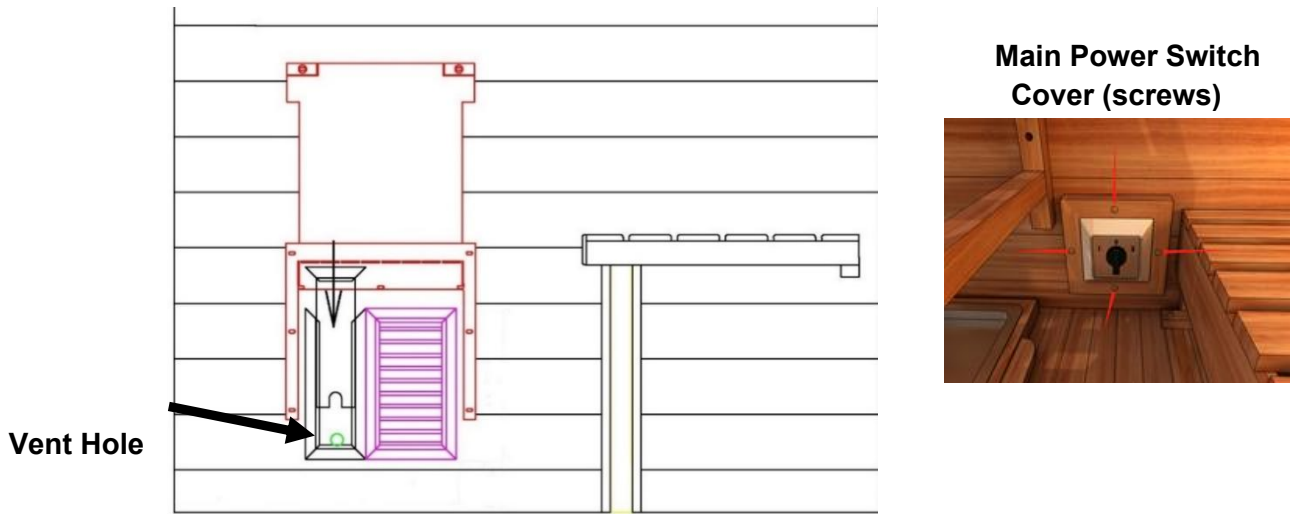

Figure 10
1. **Please Note: The heater must be installed by a certified electrician per the manufacturer's manual. The heater must be installed per the electrical code in your area with reference to the breaker and wire sizes & wire material. Be sure to follow the manufacturer's manual for proper and safe installation of the heater. A certified electrician will need to run the applicable wire from the electrical panel or junction box to the main power switch per the schematics on page 15. For the Harvia Wall Heater and if the power line is not already installed from the main power switch, it is very important to run the power line through the vent hole in the wall panel and close the vent before installing the heater as you will not be able to open the vent once the heater is installed. See Figure 10.** After the heater is mounted, you can install the stove wood heater guard. The STOVE WOOD HEATER GUARD does vary in styles. Use the provided screws to